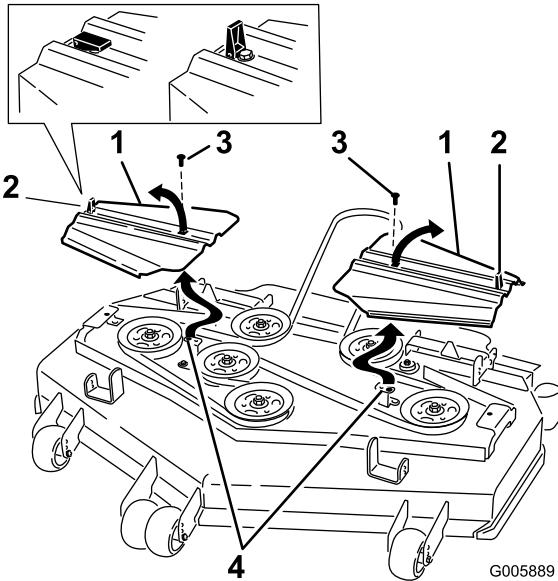

Figure 52
12. Install the belt covers with the tabs in the slots. Install the screws and close the latches (Figure 52).